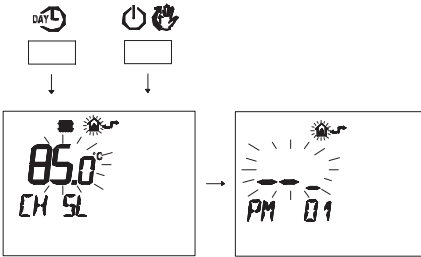

Fig. 7.40
- Press buttons  $\text{DAY} \odot$  and  $\odot \text{HAND}$  at the same time to enter transparent programming (Fig. 7.40).